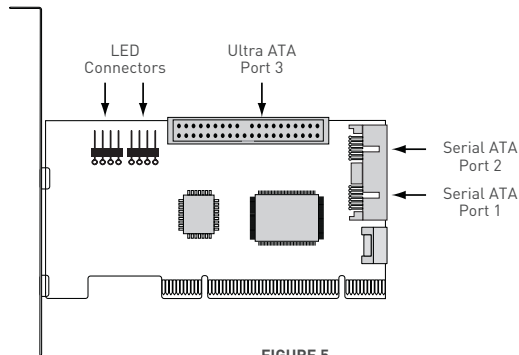

FIGURE 5
3. (optional) Attach your system case's 2- or 4-pin LED cable to the LED connector on the SATA/300 PCI Card (see Figure 5). Make sure that pin 1 on the connector is aligned with pin 1 of the cable. Consult your system case manual for more details on the LED connections for your case.
1. Attach one end of a SATA interface cable to one of the SATA connectors on the card. (See Figure 5 on page 5.)